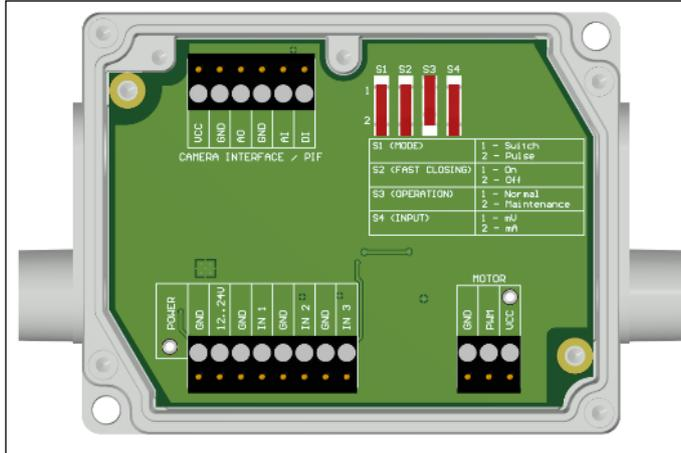

Figure 18: Control box of shutter, dimensions (see **Figure 9**)
- When using more than one shutter and the opening / closing of the shutter should be simultaneously, the switch S4 on one control box must be set to mA and the others to mV (see **Figure 18**).